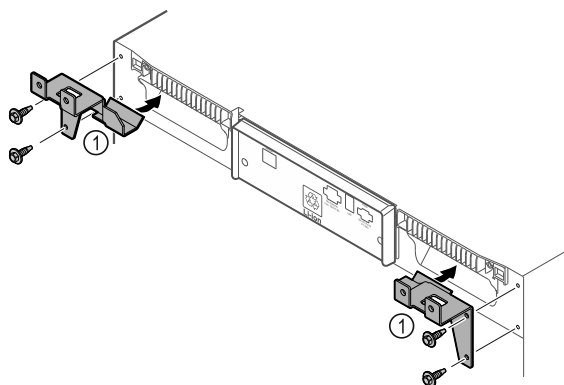

Fig. 8
- ▶ Mount retaining parts Fig. 8 (1) on the appliance using the supplied screws.